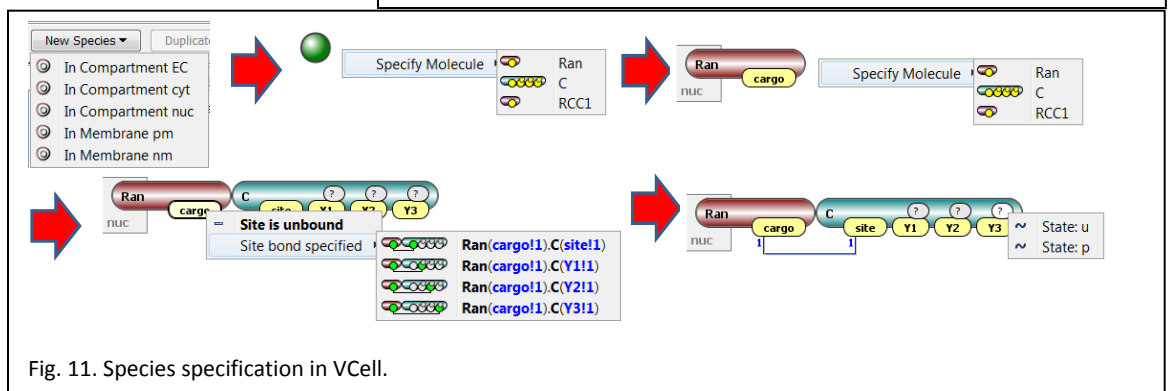

Fig. 11. Species specification in VCell.
2. **Create one or more Species** (Fig 11).